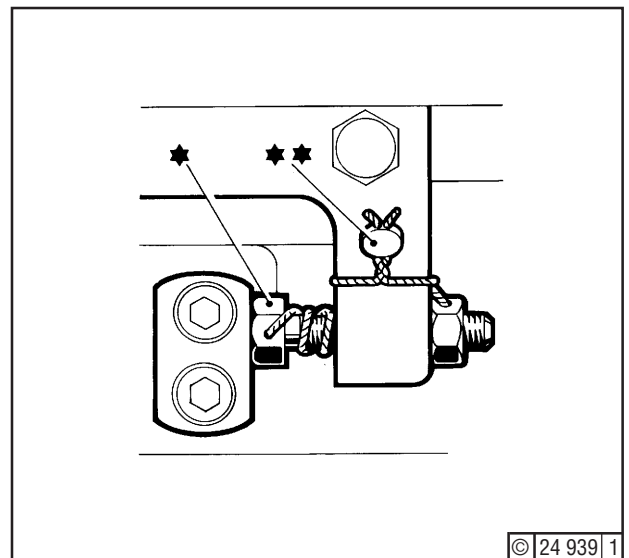

Fig. 18
13. Check that linkage abuts at stop screw (*) - Fig. 18 - when pushed to maximum load (point A13). Upon completion of the setting, lead-seal the engine output (**).